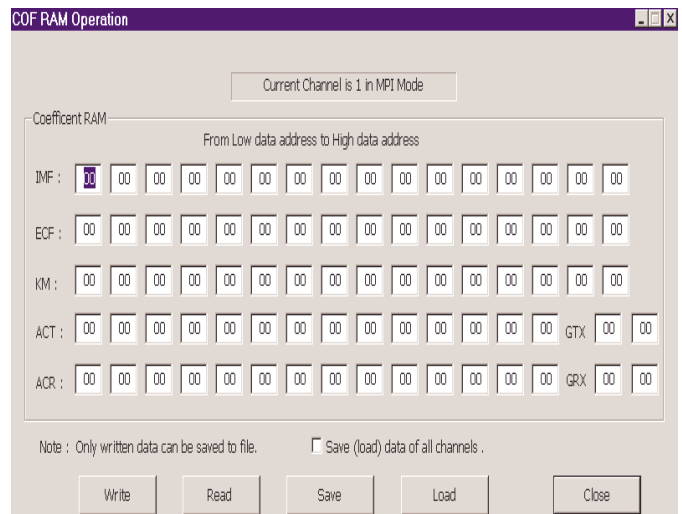

FIGURE 8. COEFFICIENT RAM OPERATION SCREEN
This test will demonstrate an end to end phone conversation between Channel 1 and Channel 2. Setting up an end to end phone conversation is accomplished with the Timeslot and PCM Highway Assignment screen (Figure 8). The IDT821068 has two PCM buses (DX1/DR1 and DX2/DR2) and can be configured up to 128 time slots on each PCM bus. The user can select any time slot and any PCM bus for a Channels transmit and receive. If the time slot assigned to the receive path of Channel X is the same one assigned to the transmit path of Channel Y, and the time slot assigned to the transmit path of Channel X is the same one assigned to the receive path of Channel Y, then Channel X and Channel Y can communicate with each other.
4. From MPI Software screen, Select Timeslot. The Timeslot and PCM Highway Assignment screen will appear (Figure 8).